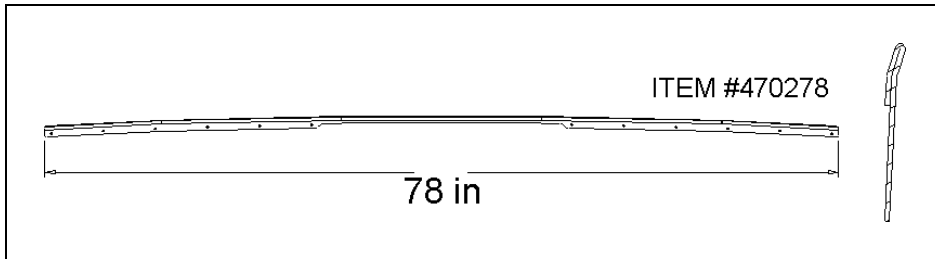
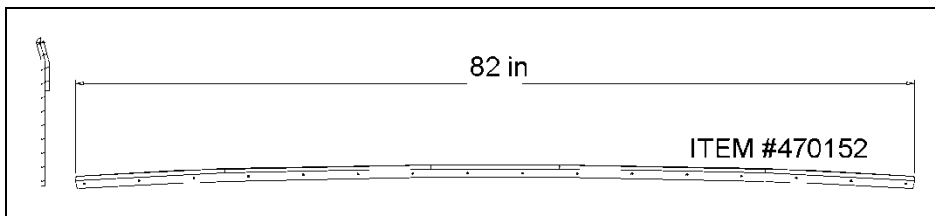

FIGURE 40: X3 SERIES UPPER DRIP EDGE
FIGURE 41: X3 SERIES LOWER DRIP EDGE
1. Identify the drip edge #470278 and #470152 (FIGURE 40 & FIGURE 41).